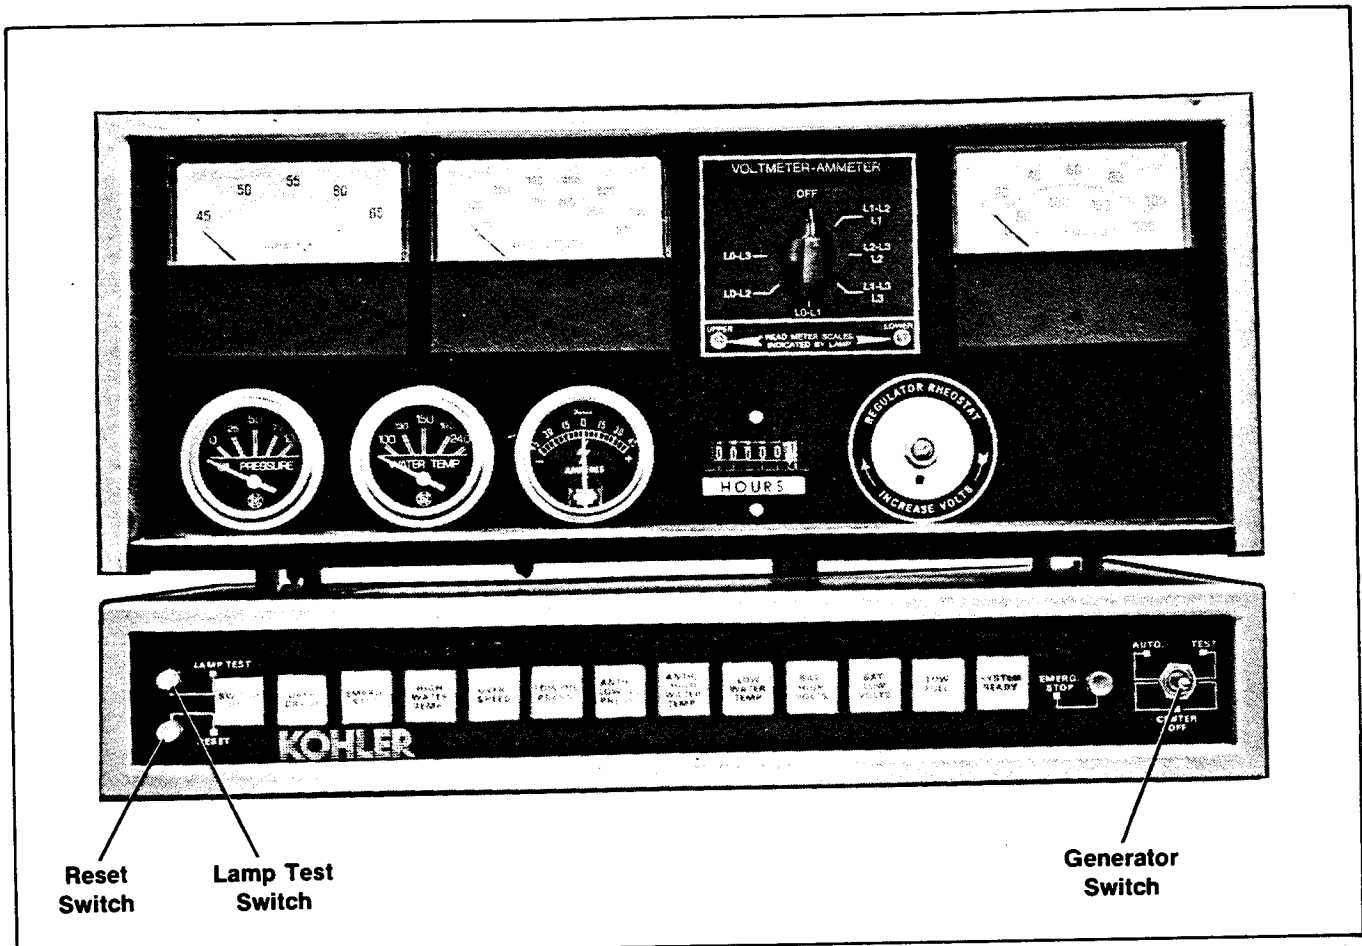

Figure 3-3. Controller
4. Move controller's generator switch to CENTER OFF. See Figure 3-3.